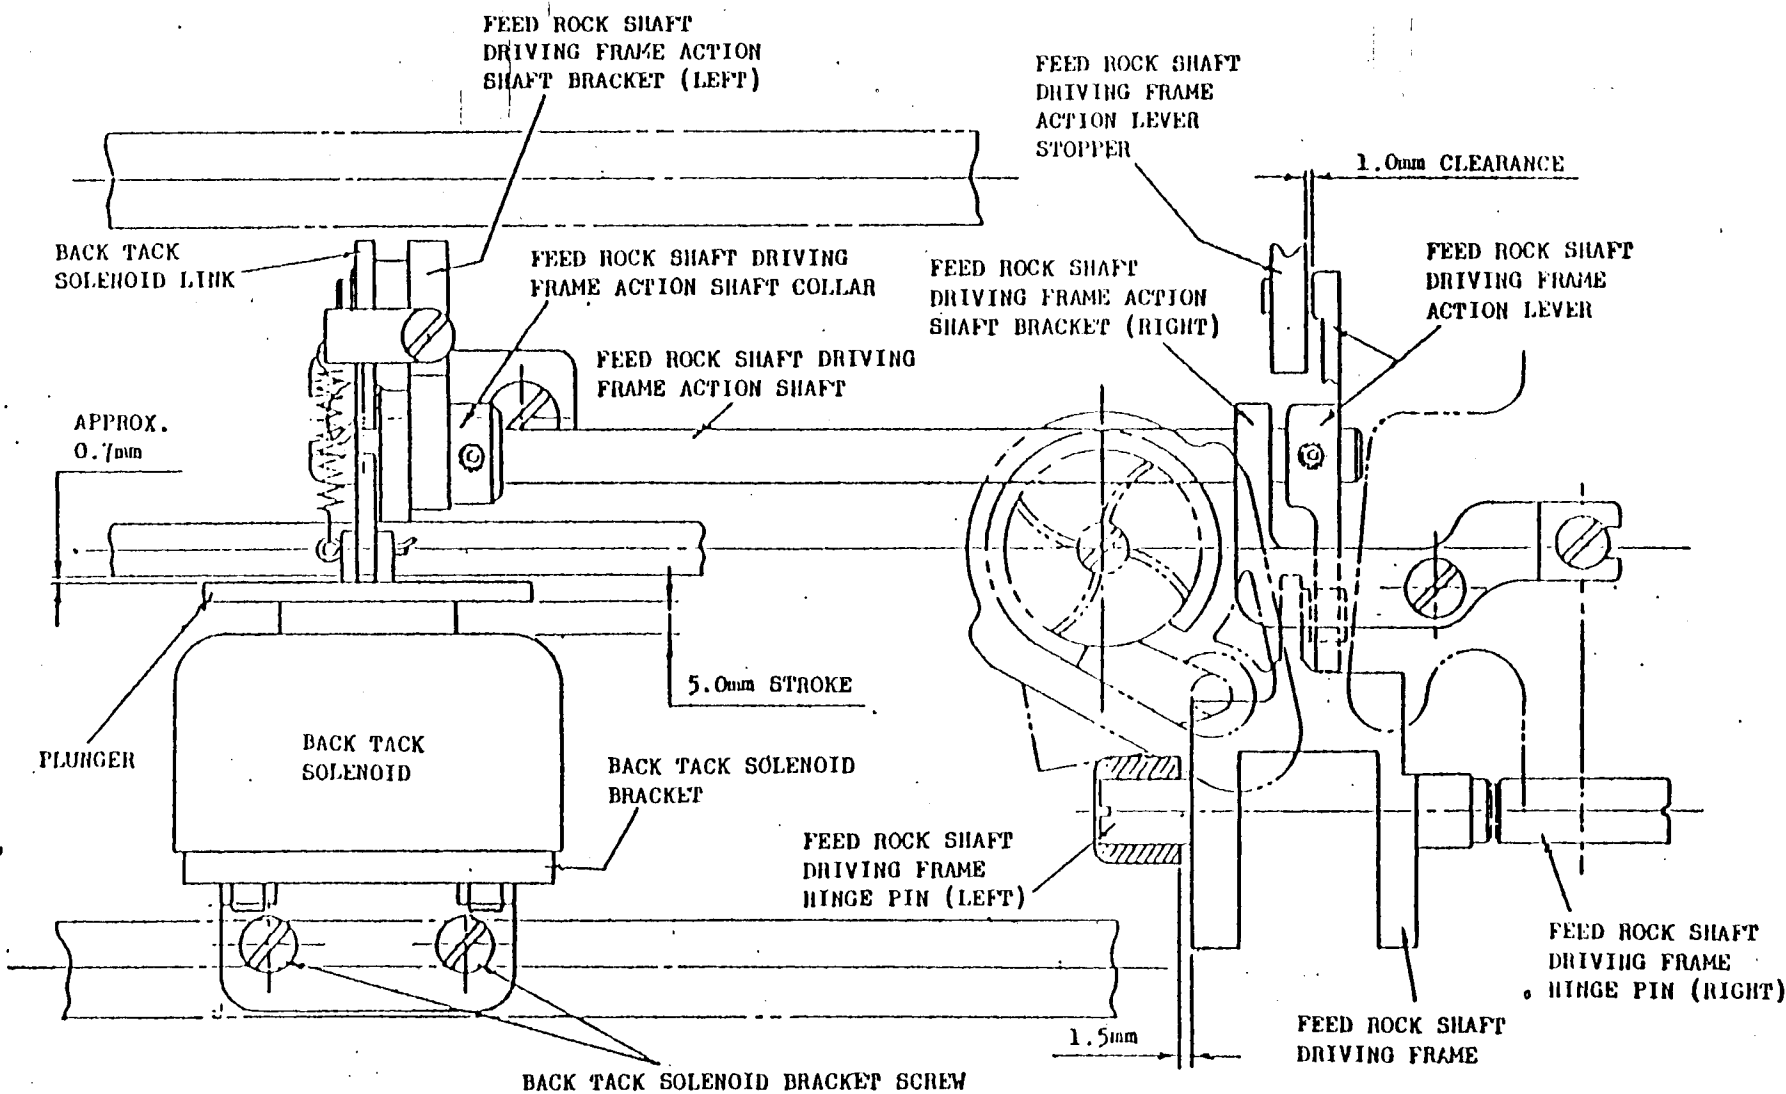

Fig. 32
Check that the driving frame action lever is set laterally in relation with the feed rock shaft driving frame stopper lever as shown in Fig. 32.
2. Setting of Feed Rock Shaft Driving Frame (Fig. 32)
1. Setting of Back Tack Solenoid (Fig. 32)